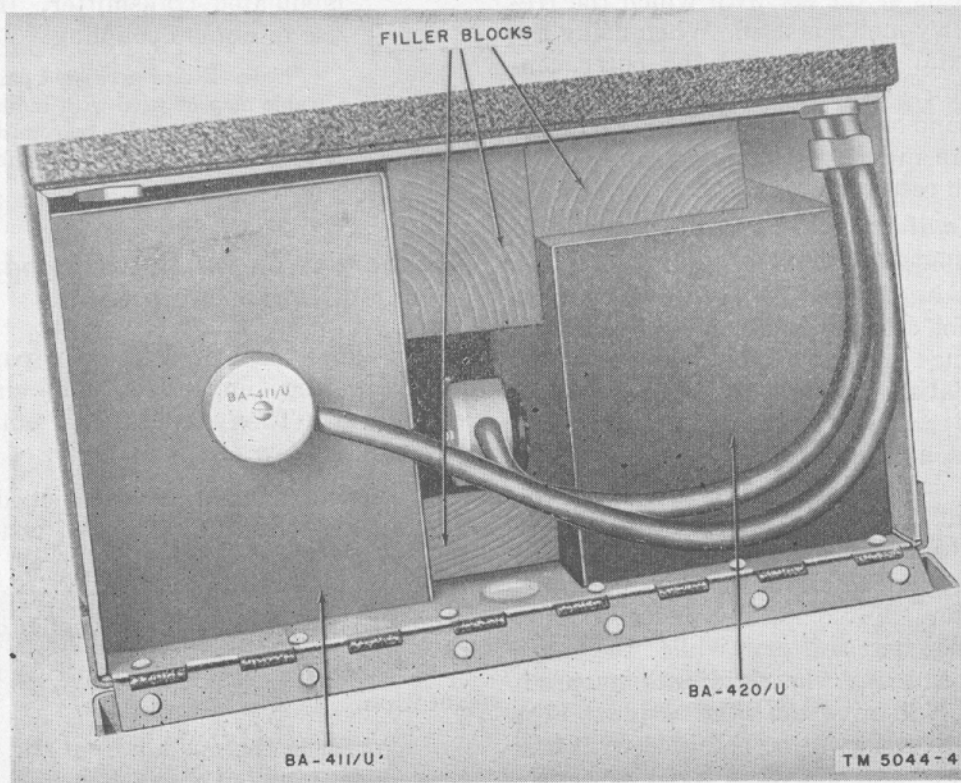

Figure 6. Installation of batteries.
- (2) Release the two small catches at the lower rear of the set by revolving them a half-turn with a screw driver. Open the door to the battery compartment.
- (3) Place the batteries partly in the battery compartment in the location shown in figure 6, but leave the connection sockets exposed.
- (4) Insert the proper plug into the proper battery socket. One plug has alignment keys different from those on the other. Do not try to force the wrong plug into a socket.
- (5) After the plugs are inserted in the sockets, slide the batteries back into their compartment. Insert the filler blocks as shown in figure 6.
- (6) Close the compartment door and rotate the catches to hold the door closed. Replace the frequency meter chassis and make certain that it is fastened securely in place.